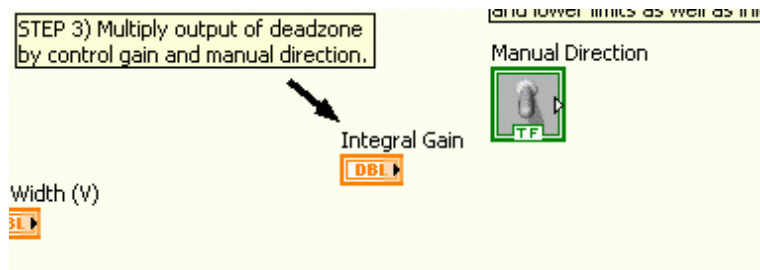

Figure 4.7: Multiply dead zone output by control gain and manual direction
7. Find the section in the block diagram shown in Figure 4.7. Multiply the dead zone output by the *Integral Gain* control. This signal is basically the servo command rate that will later be fed to an integrator. If the direction is TRUE (i.e. positive) then the clamps should close. If the direction is FALSE (i.e. negative) then the clamps should be open. Add this logic to the code and attach an image of the block diagram.